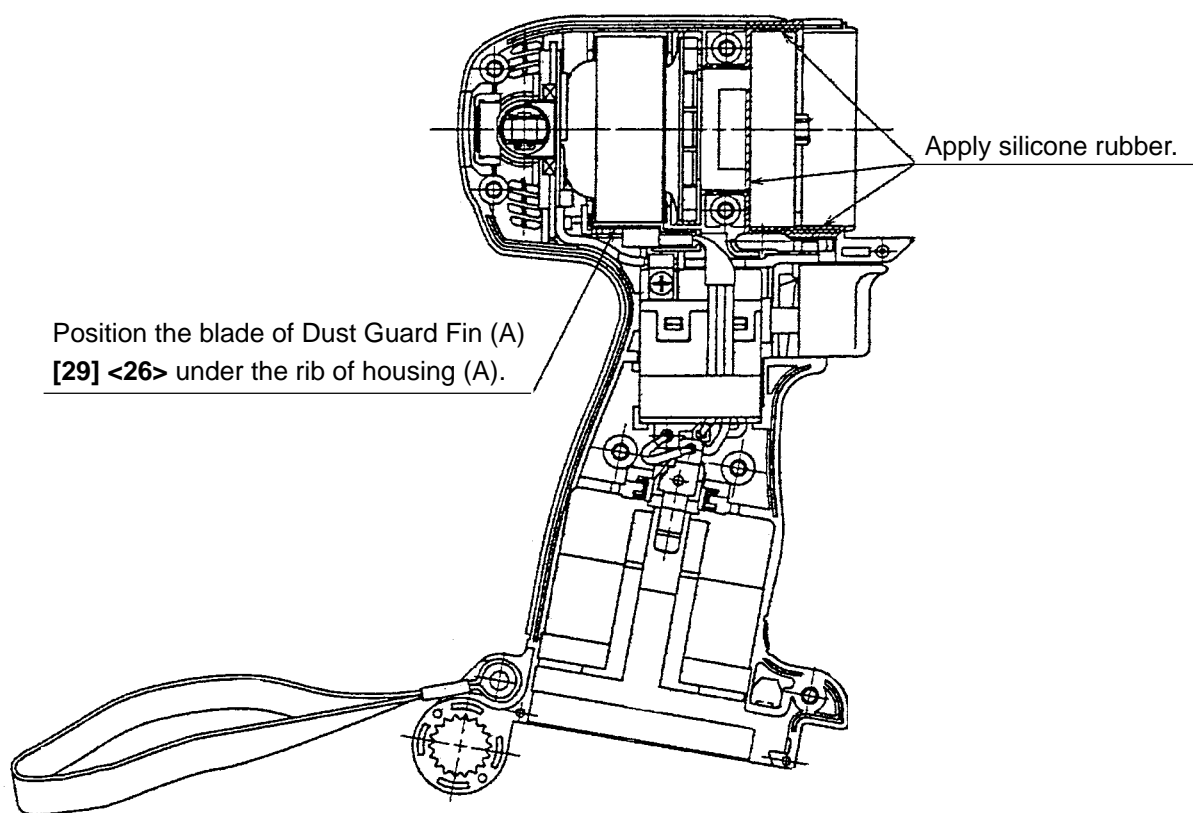

Fig. 11
(d) Mount a unit of Inner Cover (A) [25] <22> (including the Armature Ass'y DC 12 V [26] <23>), Magnet (D) [28] <25> (including Dust Guard Fin (A) [29] <26> and Side Yoke [27] <24>) and Brush Block [30] <27> into housing (A) (See Fig. 11). Pay attention to the following items.
(Note) The temperature of the FET may be high if the silicone grease is not applied. Make sure that the three internal wires from the FET are passed above the DC-Speed Control Switch [38] <35> (see Fig. 11).
(2) Apply silicone rubber (ThreeBond 1211) to housing (A) and Inner Cover (A) [25] <22> as shown in Fig. 11. Mount housing (B) and secure them with seven Tapping Screws (W/Flange) D4 x 20 (Black) [33] <30>. Wipe the silicone rubber coming out of the housing with a cloth. Insert the Sleeve [46] <42> into the Strap [45] <41> and tighten the Machine Screw (W/Washers) M4 x 25 [47] <43>.